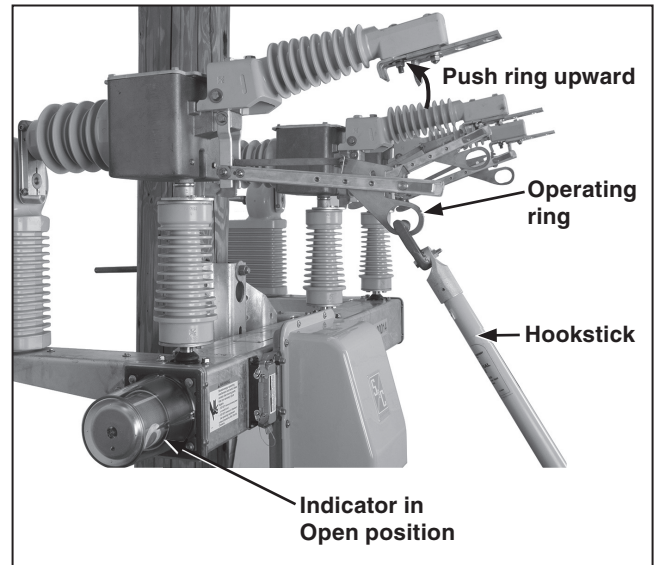

Figure 19. Push the blade into contact.
STEP 25. Close the disconnect by pushing the operating ring into the contact. See Figure 19. When the blade contact latch is completely closed, the operating ring will tilt backward into the blade contact. Disengage the hookstick from the operating ring. Repeat with the remaining two disconnects. The switch can now be closed.